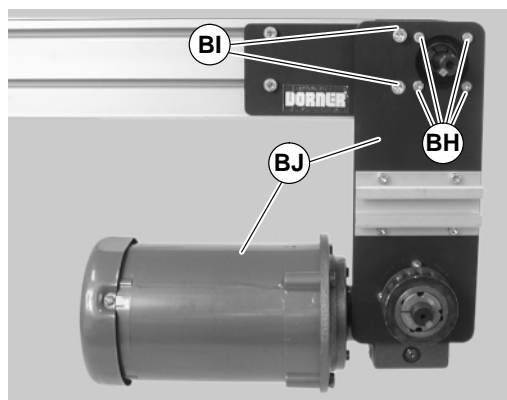

Figure 43
- 5) Remove four (4) M5 mounting screws (BH of Figure 43) and two (2) M8 mounting screws (BI).
- 6) Remove gearmotor and mounting plate assembly (BJ of Figure 43).